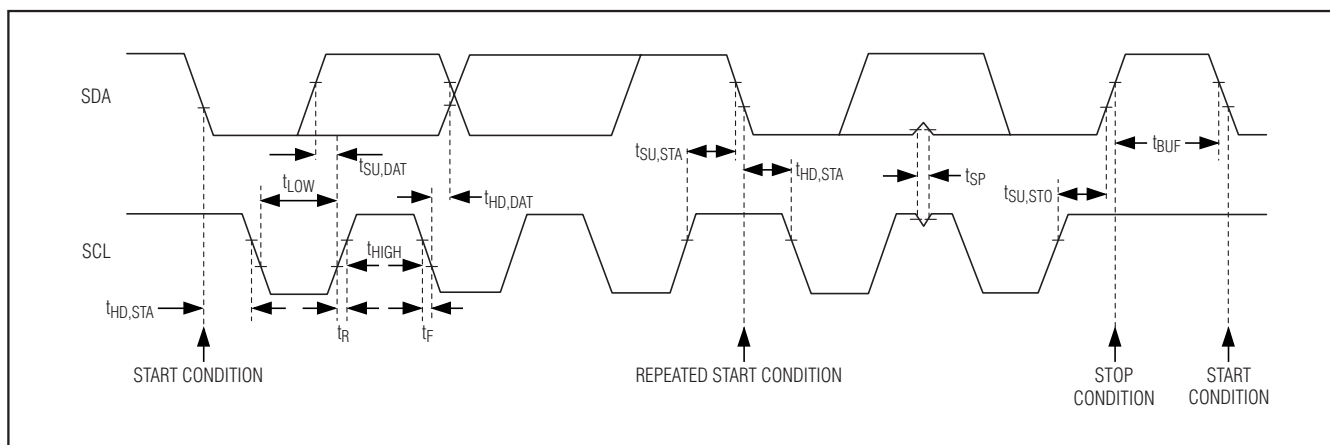

Figure 14. 2-Wire Interface Timing Diagram
The MAX9880A features an I2C/SMBus™-compatible, 2-wire serial interface consisting of a serial-data line (SDA) and a serial-clock line (SCL). SDA and SCL facilitate communication between the MAX9880A and the master at clock rates up to 400kHz. Figure 14 shows the 2-wire interface timing diagram. The master generates SCL and initiates data transfer on the bus. The master device writes data to the MAX9880A by transmitting the proper slave address followed by the register address and then the data word. Each transmit sequence is framed by a START (S) or repeated START (Sr) condition and a STOP (P) condition. Each word transmitted to the MAX9880A is 8 bits long and is followed by an acknowledge clock pulse. A master reading data from the MAX9880A transmits the proper slave address followed by a series of nine SCL pulses. The MAX9880A transmits data on SDA in sync with the master-generated SCL pulses. The master acknowledges receipt of each byte of data. Each read